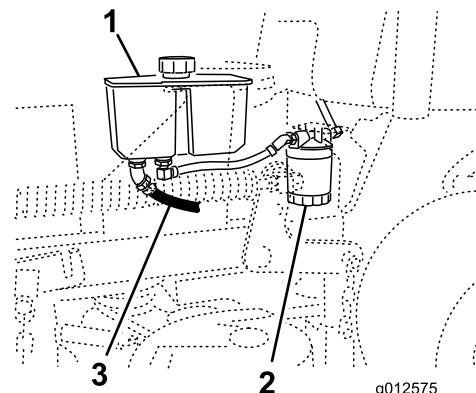

Figure 69
4. Locate the front hydraulic hose under the hydraulic tank and place a drain pan under the tank (Figure 69).